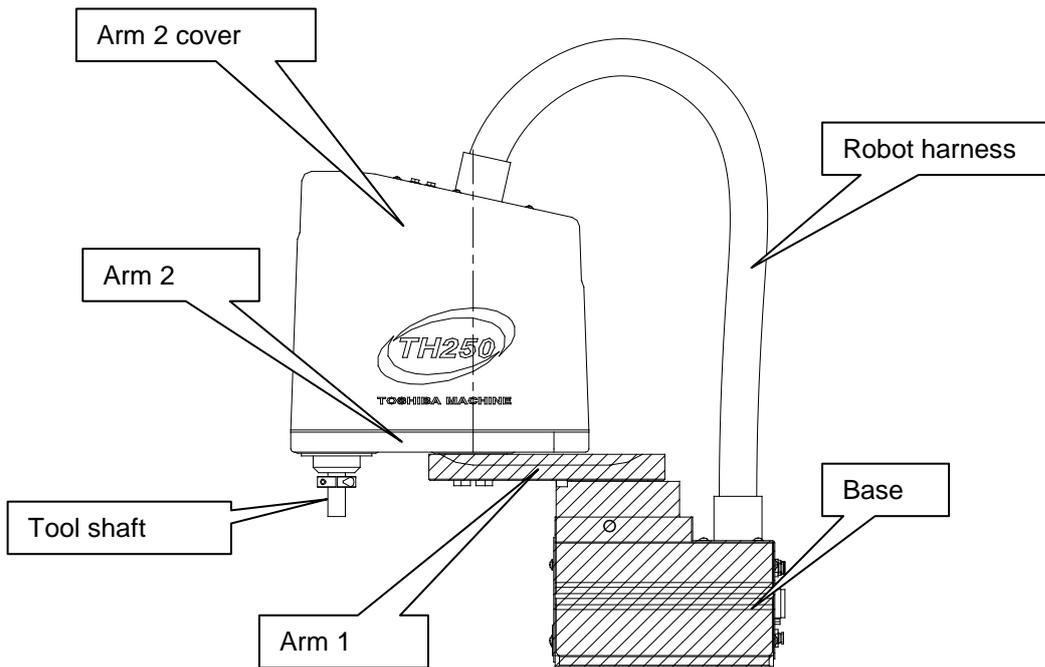

Fig. 1.4 Robot handling area (shaded area) (TH250A, TH350A)
- When lifting the robot by workers, hold the locations (shaded areas) by hands as shown in Figs. 1.4 to 1.6. If the arm 2 or cover is held by hands, an unusually large force is exerted, resulting in a malfunction.